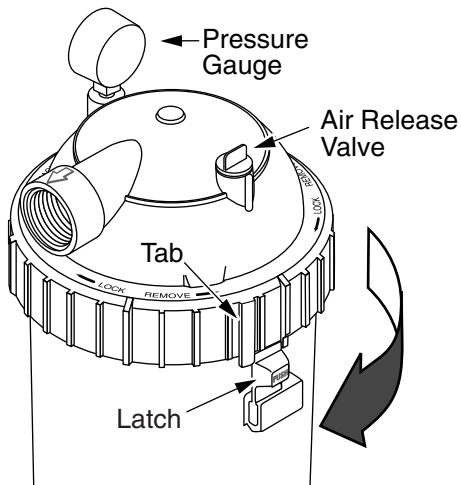

Figure 2 – Rotate Posi-Ring™ until tab locks behind the safety latch.
1. Securely lock the Posi-Ring™ in place by rotating it **CLOCKWISE** until it “clicks” past the safety latch (see Figure 2). Stop turning as soon as the ring clicks past the latch. The ring may feel slightly loose, but it will tighten up when pump is on and filter is under pressure.
2. Install the pressure gauge and the air release valve (See Figure 2) on the tank lid.
- C. Rotate the Posi-Ring™ clockwise until it locks behind the safety latch (see Figure 2).